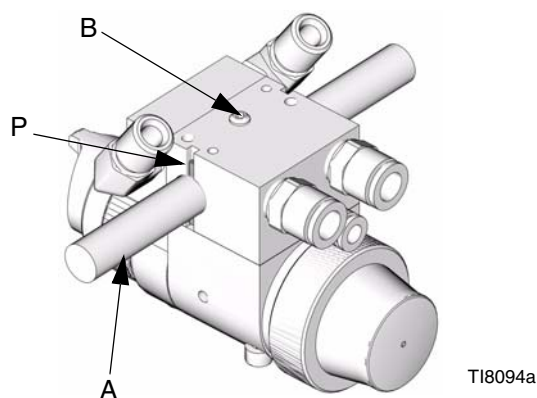

FIG. 5: Reciprocating Arm Mount
1. Insert the mounting bar (A) through the hole in the manifold as shown in FIG. 5.